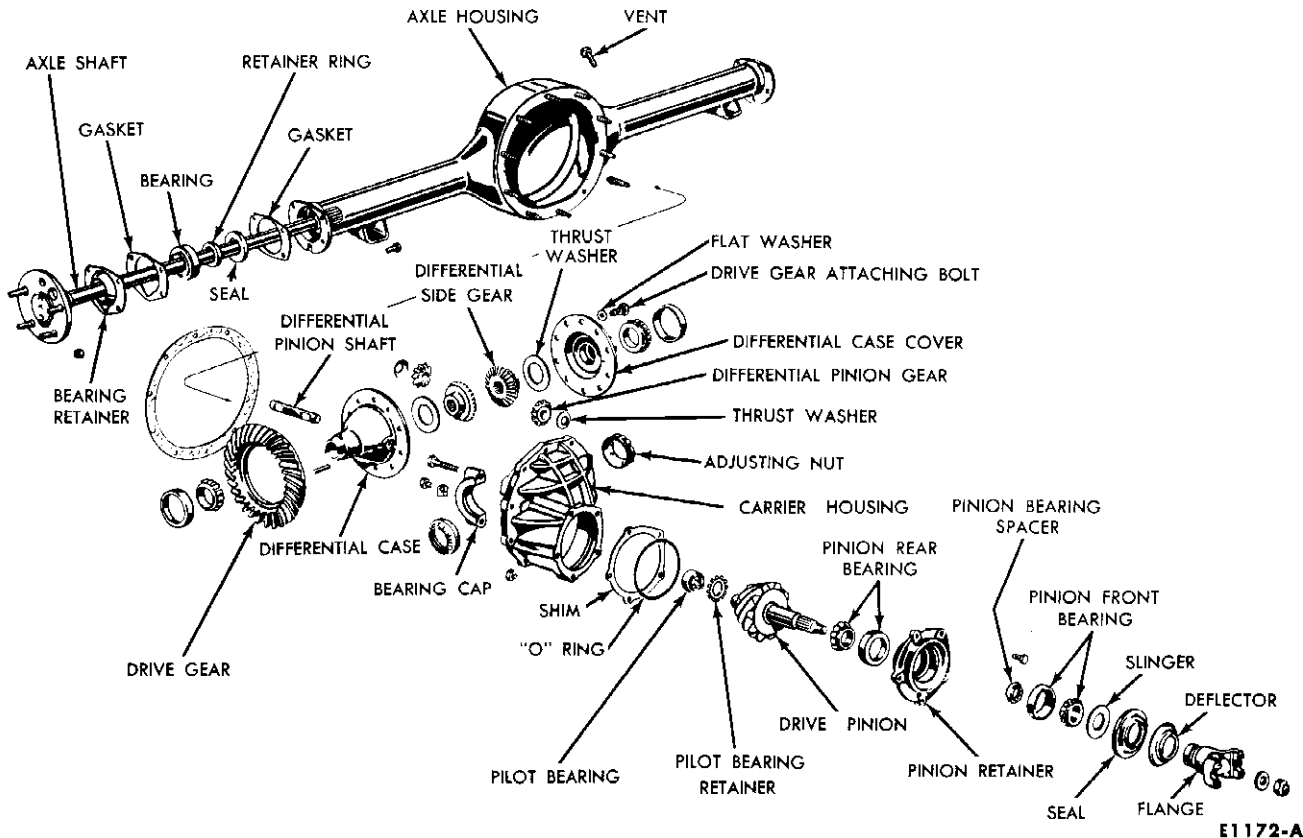

FIG. 1—Rear Axle—Disassembled
1. Use a wire brush to clean dirt from the area around the carrier and housing mating surfaces (Fig. 1). Then wipe the area clean with a cloth dampened with solvent.